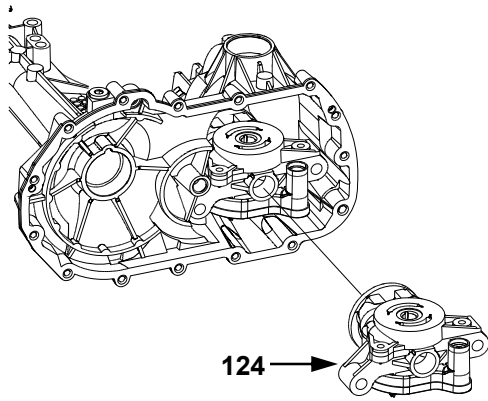

Figure 20
15. Remove the center section and filter assembly (124, Fig. 20).